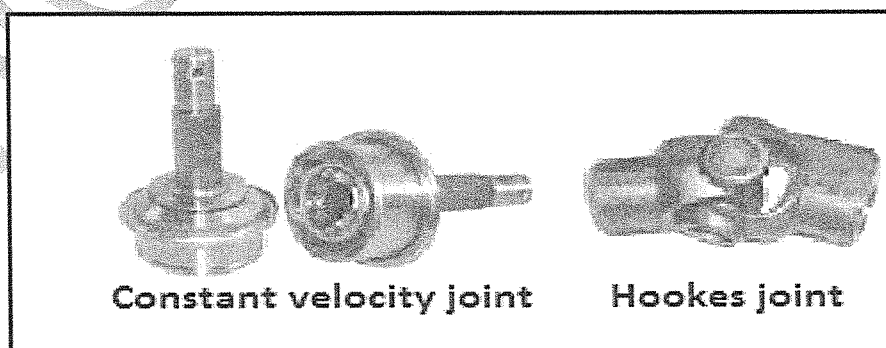

FIGURE 2
- 4.1 FIGURE 2 shows constant velocity (CV) joints and a Hooke's joint.